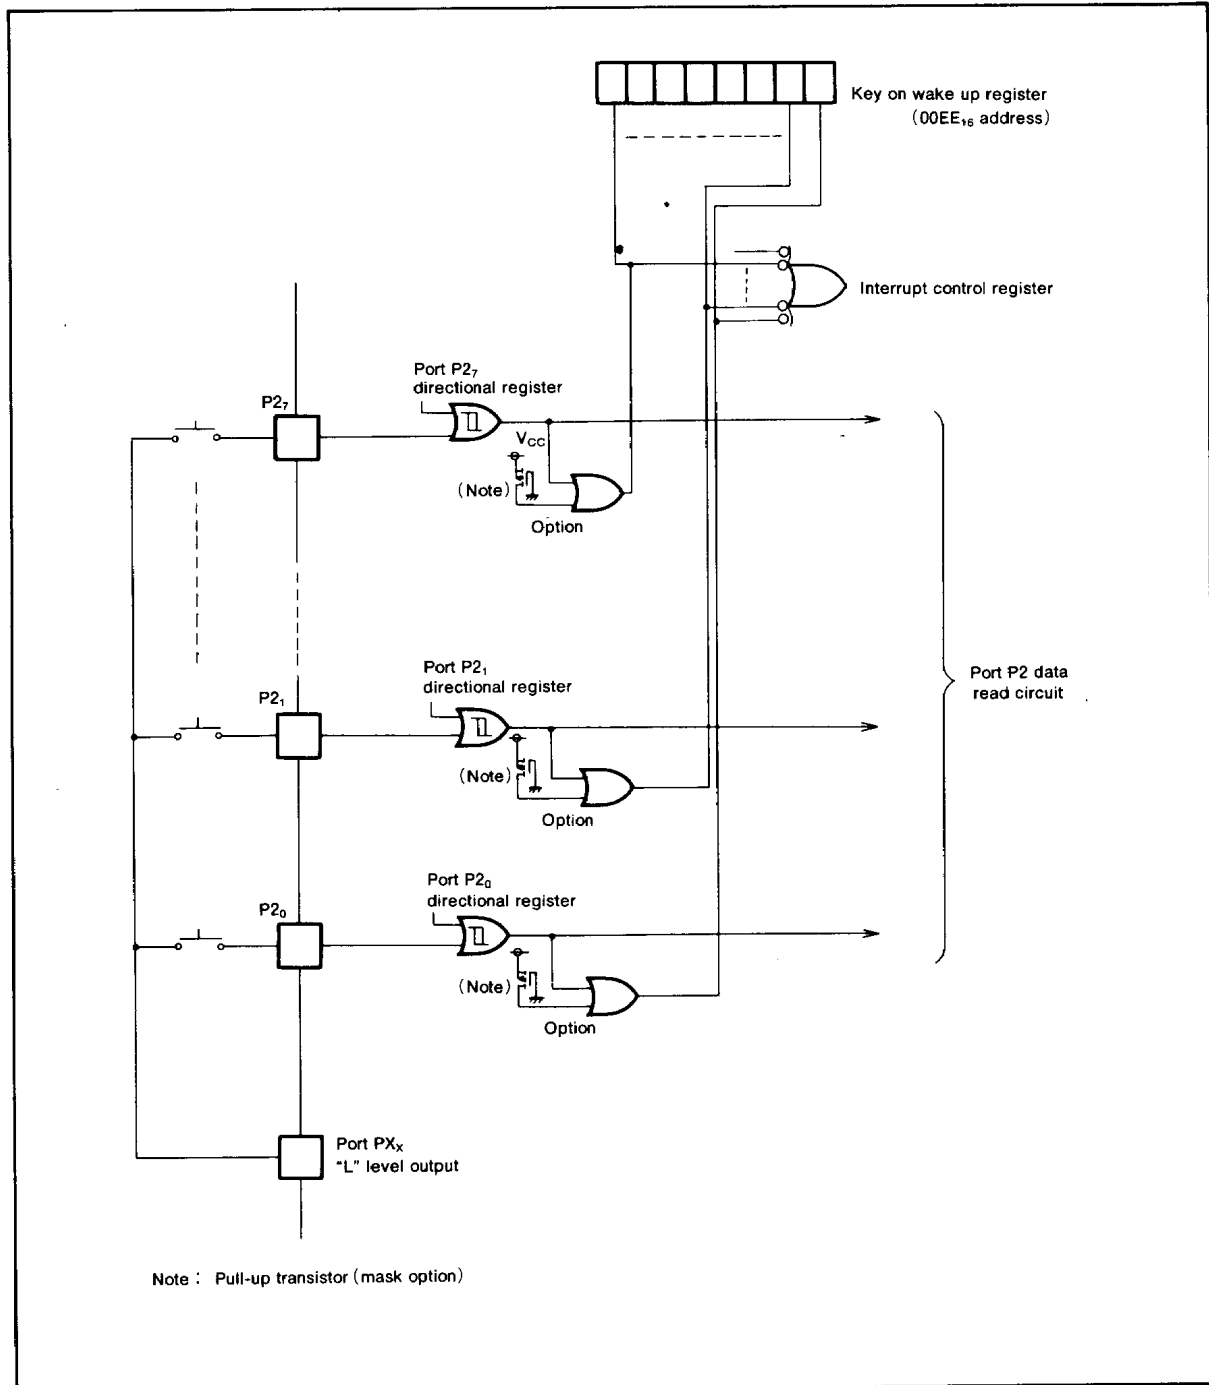

Fig. 19 Block diagram of port P2 and example of wired at used key on wake up
As shown in Figure 19, if the key matrix of active “L” to input port P2 is constructed, the microcomputer is returned to normal operating state by the key push. Refer to the section of interrupt how to use the key on wake up function. In order to enter the power down state generated by the STP or WIT instruction at the interrupt disable flag (I) is “0” and IC₂ is “1”, the input designated as key on wake up by option in port P2 must be all “H”.